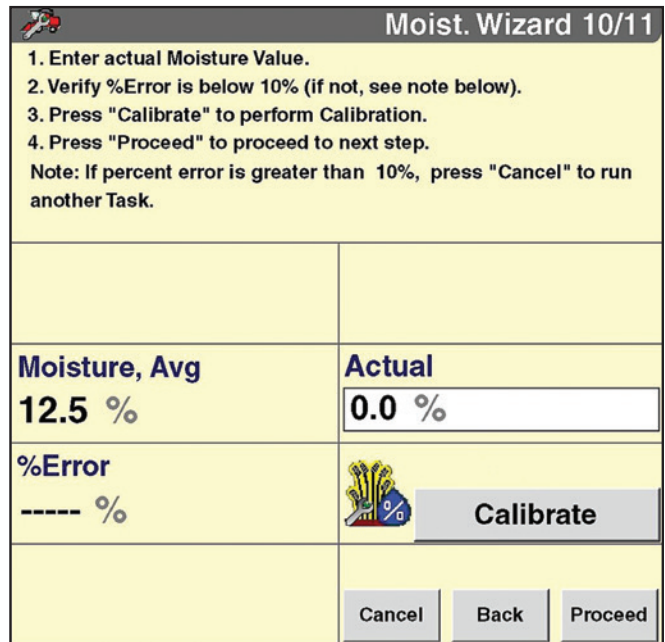

Figure 24.2
- Actual moisture values entered, percent error relative to sensed moisture calculated for each load (see figure 24.2)
- Actual weight entered, percent error relative to sensed weight calculated for each load (see figure 24.2*)
* Yield Wizard screens closely resemble Moisture Wizard screens in figures 24.2 and 24.3.